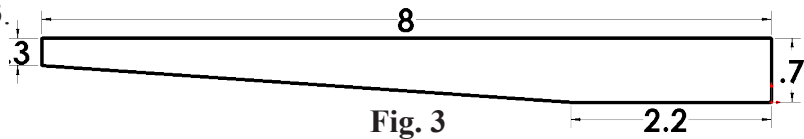

Fig. 3
Step 5. Click **Smart Dimension**  (S) on the Sketch toolbar.
Step 6. Dimension as shown in **Fig. 3**.